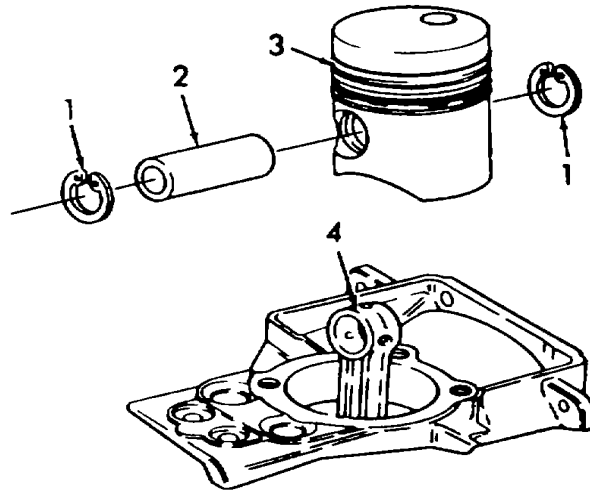

Figure 5-27. Piston Removal.
a. Removal. (Refer to figure 5-27).
- (1) Using retaining ring pliers remove circlip (1).